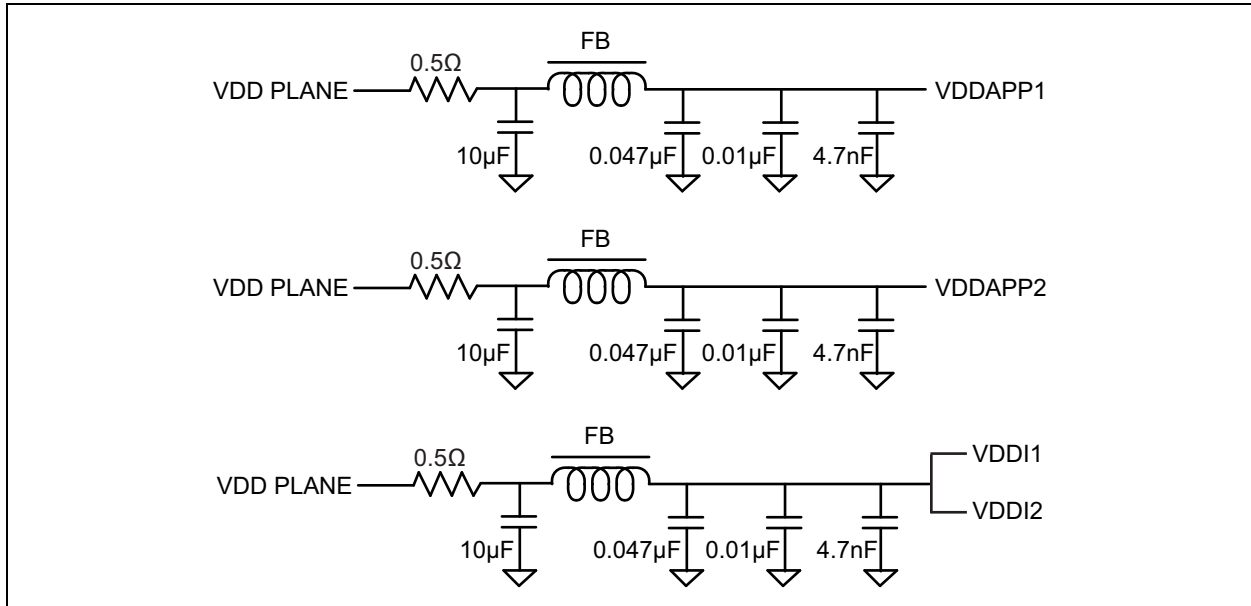

FIGURE 5-1: Recommended Power Supply Filtering.
- Use the power supply filtering shown in Figure 5-1 for V_{DDAP1}, V_{DDAP2}, V_{DDI1} and V_{DDI2}.